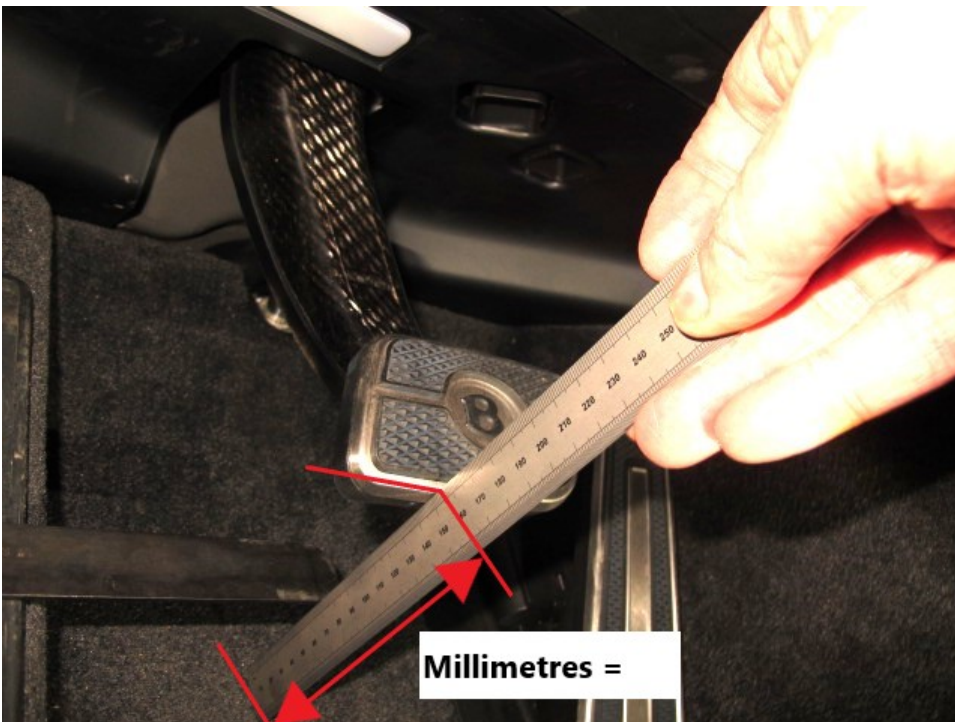

Figure 4
5) Referring to Figure 4 - Ensure the brake pedal is in its neutral position (not pressed) measure the distance in Millimetres from carpet to the lower edge of the brake pedal
Brake pedal distance from carpet to brake pedal as Figure 4	Distance in Millimetres =